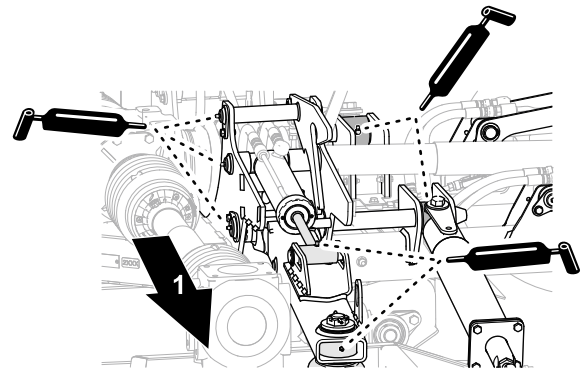

Figure 46
- Apply the specified grease to the lift arms, hydraulic cylinders, and impact struts of the left and right mower decks (Figure 46).